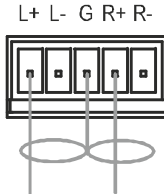

Figure 11: Unbalanced Stereo Audio Connection
- An unbalanced stereo output connection, see Figure 11